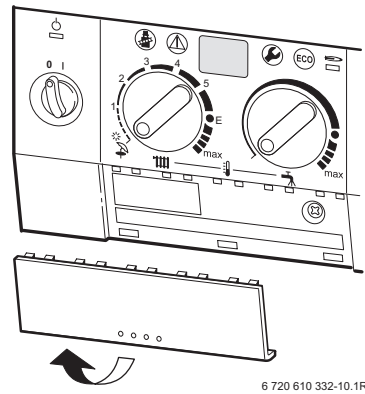

Fig. 25
- ▶ Pull out cover panel at the bottom and remove. Refer to fig. 25.